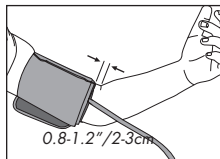

Fig. 5
3. The bottom edge of the cuff should be positioned approximately one inch above the elbow joint, Fig 5.